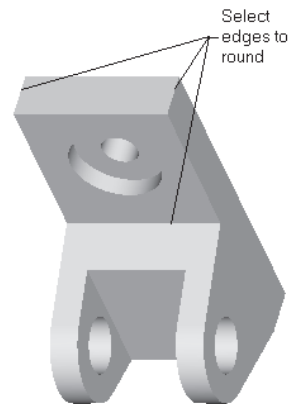

Figure 5-66 Edges to be selected to round
4. Select the **One By One** option from this menu. You are prompted to select the edges to round. Select the edges that are shown in Figure 5-66. The selected edges turn blue in color.